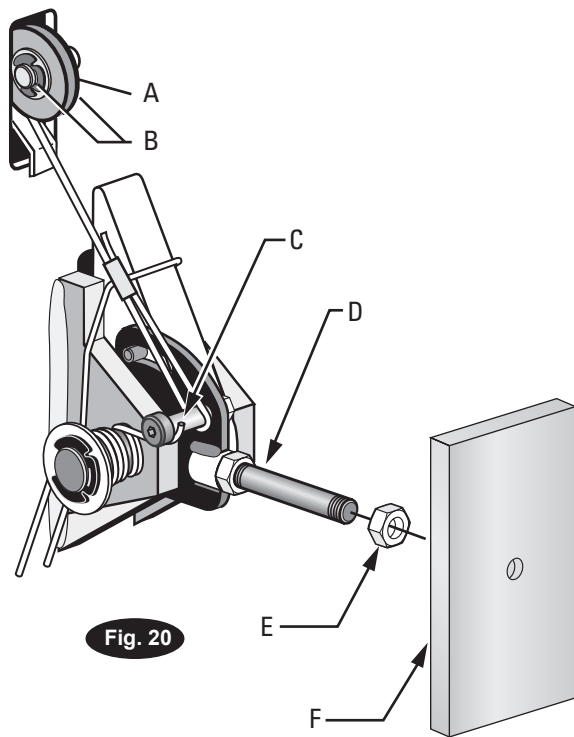

Fig. 20 Detail
- B) Slip loop end of cable over end of shoulder screw on right side latch control plate, Fig. 20.
- C) Feed the other end of the cable through the latch cable sheave slot making sure that the cable is running between the bottom side of the latch cable sheave and sheave cover then inside the right column, Fig. 20.